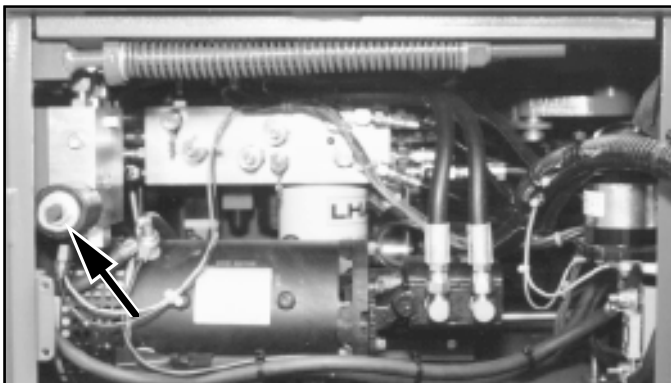

Figure 3: Emergency Lowering Valve
13. Check Level Sensor (Figure 3) operation by pushing the sensor off of level while pushing the Chassis Lift Switch to UP position, the alarm should sound.
15. Open the Chassis Emergency Lowering Valve (Figure 3) to check for proper operation by pushing in on the knob and turning ¼ turn counterclockwise. Once the platform is fully lowered, close the valve by pushing in and turning the knob ¼ turn clockwise until the detent engages.
Ask a person on the ground to open the Emergency Lowering Valve (Figure 3) to lower the platform. This valve is located inside the right module: